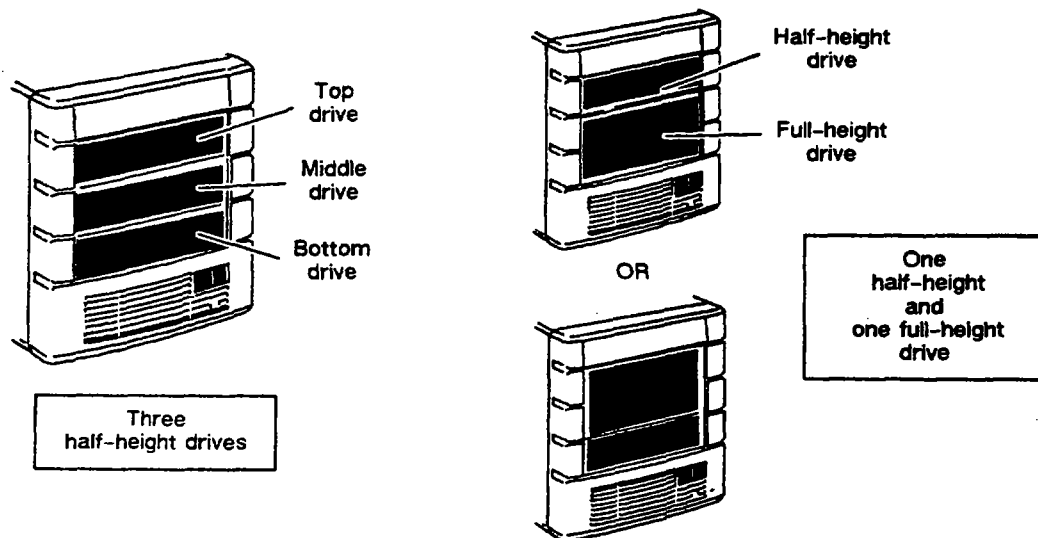
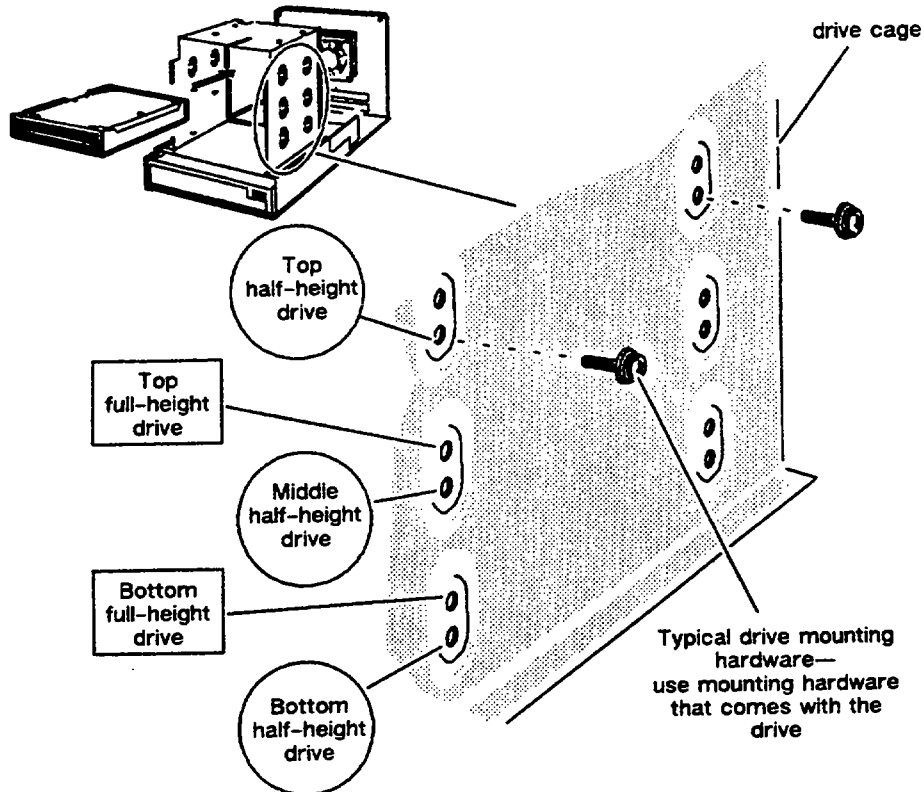

Figure 4-1 PHU Drive Configurations
Figure 4-3 Mounting Holes for a Full-Height Drive or a Half-Height Drive
The PHU's drive cage can accommodate either one to three half-height drives, or one half-height drive and one full-height drive, as shown in Figure 4-1. When the PHU has only one half-height drive or one full-height drive, any unused drive slots are covered by blank half-height covers.
- Slide the add-on or replacement drive into the drive cage, and attach it with the mounting screws. Figure 4-3 shows the mounting holes for the top, middle, and bottom half-height drives. (These drives were shown in Figure 4-1.) Figure 4-3 also shows the mounting holes for either a top full-height drive or a bottom full-height drive. The PHU cannot support more than one full-height drive at a time.